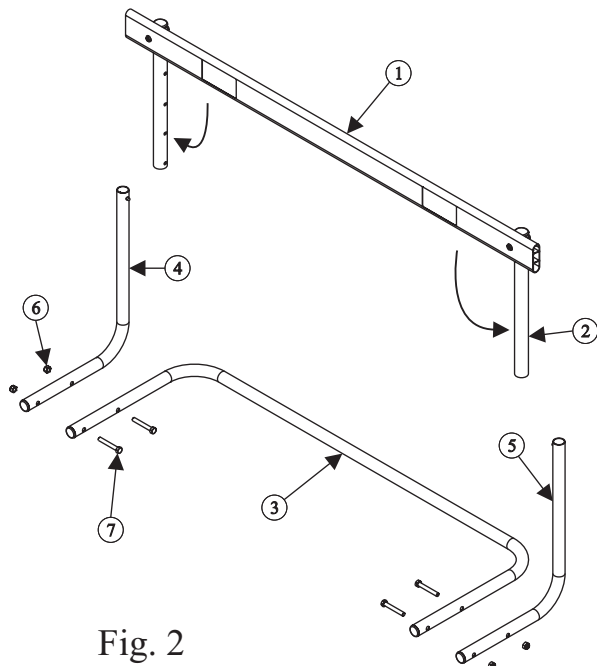

Fig. 2
**2** Attach the L/H and R/H Upright Sections, (4) and (5) respectively, to the Base 'U' Section (3) using 4 M8 x 50 Hex Bolts (7) and M8 Nylock Nuts (8). Ensure the Hex Bolt is inserted from the inside of the frame, as shown in Fig 2.
**3** Spin the Top Uprights (2) so they are perpendicular to the H8 Hurdle Lathe (1). Depress the button clips in the upright, then slide the Top Uprights over the upright sections. Secure the Lathe in the required position. Ensure the button clip is deployed correctly and Lathe secure before use.